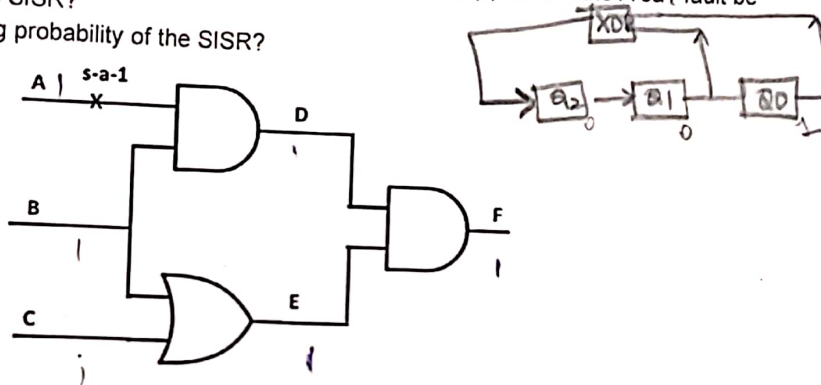

Figure 2
- The test patterns generated by the LFSR are applied to the circuit shown in Figure 2 and used to detect the A stuck-at-1 fault. Write out the good and faulty responses of the circuit for the 7 test patterns from part (b) and determine the test patterns that can detect the A sa1 fault.
- Assume that the circuit in chip2 is that shown in Figure 2. You want to test the D stuck-at-0 fault. Explain how you would test this fault through the boundary scan architecture.